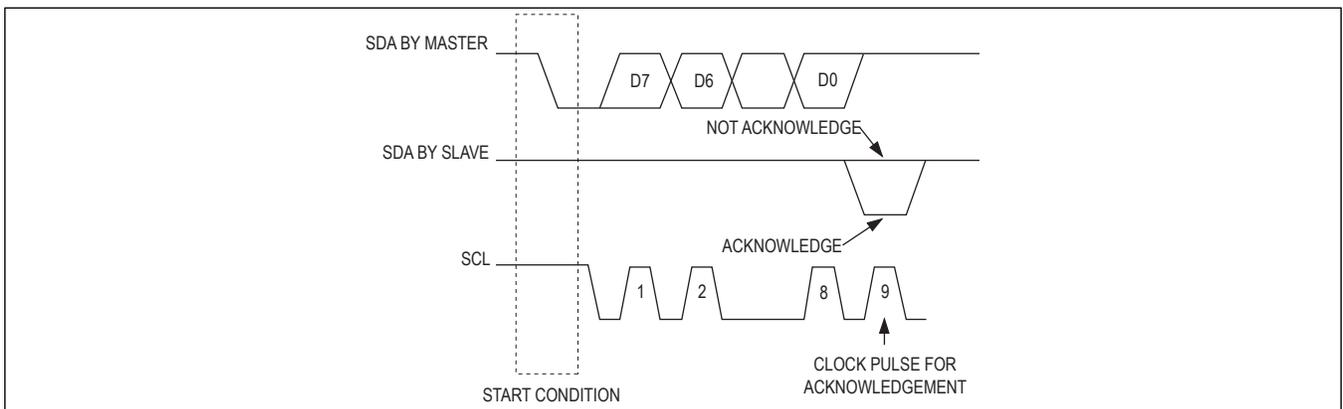

Figure 23. I2C Acknowledge
The acknowledge bit is used by the recipient to handshake the receipt of each byte of data (Figure 23). After data transfer, the master generates the acknowledge clock pulse and the recipient pulls down the SDA line during this acknowledge clock pulse so that the SDA line stays low during the high duration of the clock pulse. When the master transmits the data to the IC, it releases the SDA line and the IC takes the control of the SDA line and generates the acknowledge bit. When SDA remains high during this ninth clock pulse, this is defined as the not acknowledge signal. The master can then generate either a STOP (P) condition to abort the transfer, or a REPEATED START (Sr) condition to start a new transfer.